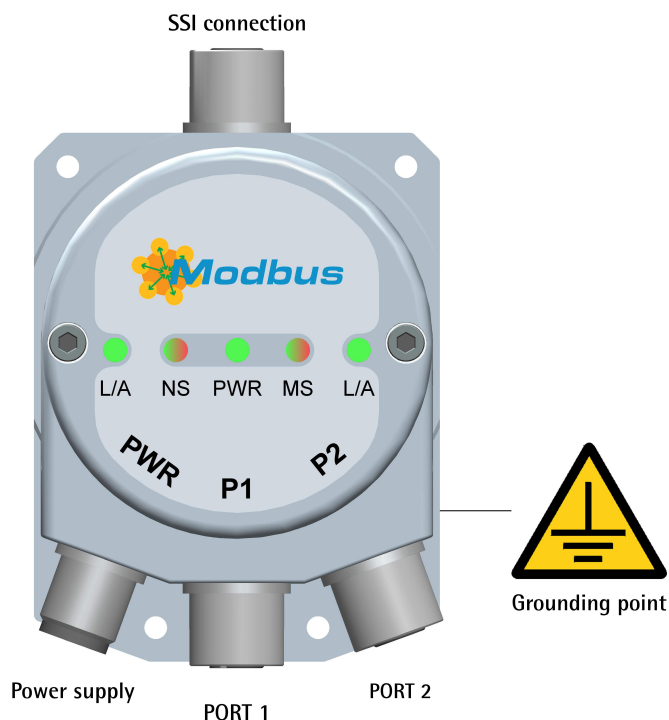

Figure 4 - Connectors and diagnostic LEDs
4.2 SSI connection (Figure 4)
4.3 Power supply and MODBUS TCP/IP interface connectors (Figure 4)
4.3.1 PWR Power supply connector (Figure 4)
4.3.2 P1 Port 1 and P2 Port 2 connectors (Figure 4)
device. We suggest using the ground point provided in the cap (see Figure 4, use 1 TCEI M3 x 6 cylindrical head screw with two tooth lock washers).